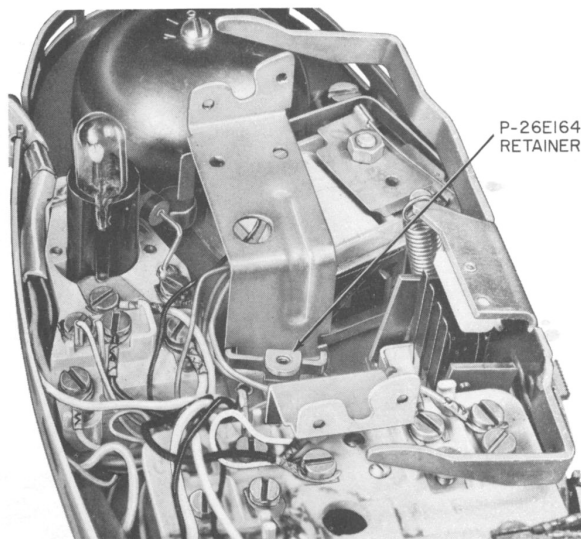
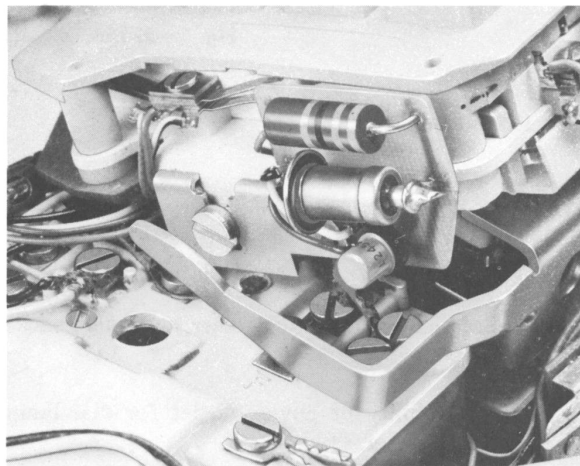

Fig. 6—Installing Terminal Board Retainer in PRINCESS® Telephone Set
Fig. 7—Polarity Guard Mounted in PRINCESS Telephone Set
- (1) Remove housing; loosen dial mounting screws and move the dial to one side without disconnecting the dial leads.
- (2) Insert the P-26E164 retainer in left-hand dial mounting bracket (Fig. 6).
- (3) Insert tabs of P-21F675 terminal board into notches in right-hand dial mounting bracket and secure to retainer using P-43A392 screw.
- (4) Connect polarity guard in accordance with connections shown in Table C.
- (5) Reinstall dial on mounting bracket, securing the P-90D054 guard assembly mounting bracket under the right-hand dial mounting screw (Fig. 7).
- (6) Reinstall housing.